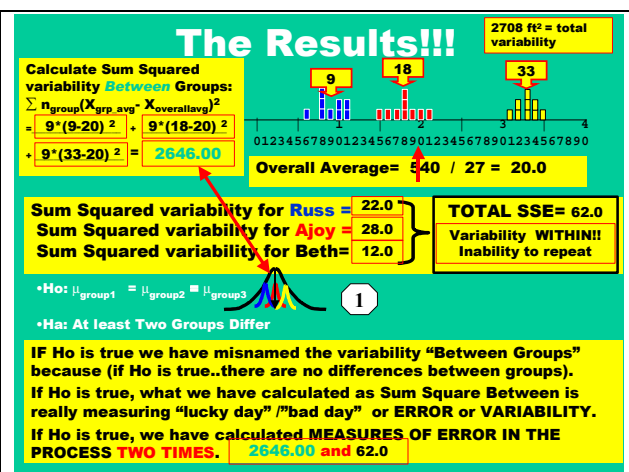

Figure 12
Figure 12 [Label (1)] shows a picture that illustrates a very important logical condition. If  $H_0$  *is* true the data we have collected on kick distances all come from one parent distribution – the black distribution in figure 12. If  $H_0$  is true, the three students have equal long-term, overall averages. If  $H_0$  is true we are all equally good and our long-term, overall averages are the average of the black parent distribution.